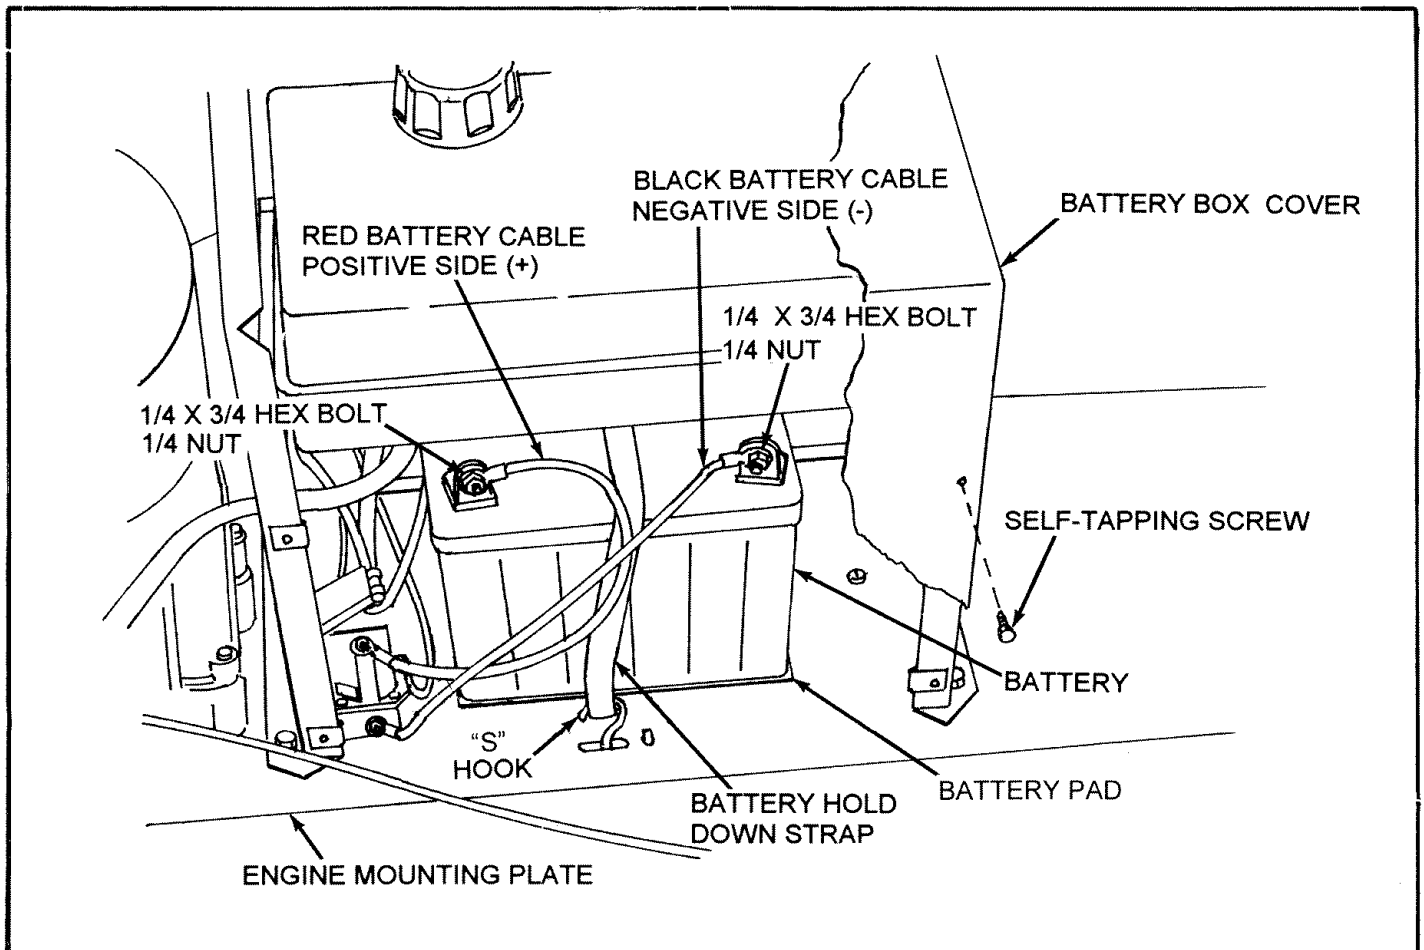

FIG. 3
- Remove Battery Box Cover by removing four Self-Tapping Screws. (See Fig. 3)